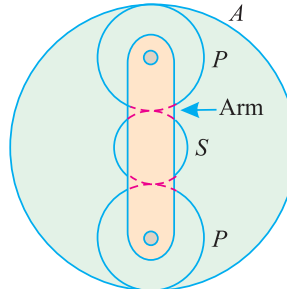

Fig. 34.15.
**Example 34.8.** An epicyclic gear train as shown in Fig. 34.15, has a sun wheel *S* of 30 teeth and two planet wheels *P*, *P* of 50 teeth. The planet wheels mesh with the internal teeth of a fixed annulus *A*. The driving shaft carrying the sun wheel, transmits 4 kW at 300 r.p.m. The driven shaft is connected to an arm, which carries the planet wheels.
Let  $d_A$ ,  $d_P$  and  $d_S$  be the pitch circle diameters of the wheels A, *P* and *S* respectively. From the geometry of Fig. 34.15, we find that
- In an epicyclic gear train (as shown in Fig. 34.15) the arm is fixed to the shaft. The sun wheel S having 100 teeth rotates freely on the shaft and the wheel A with 150 teeth is separately driven. If the arm runs at 200 r.p.m. and the wheel A at 100 r.p.m. in the direction, find